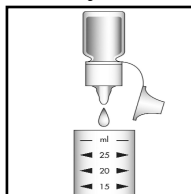

Figure 2
1. Add **5 drops** of A-1402 Stabilizer Solution to the empty sample cup (fig 2).
3. Add **2 drops** of A-1401 Catalyzer Solution (fig 2). Stir to mix the contents of the cup.
4. Add **2 drops** of A-1400 Activator Solution (fig 2). Stir to mix the contents of the cup.